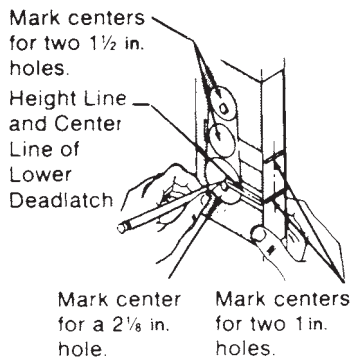

Figure 13.57 Marking holes.
1. Mark the height line (the centerline of the deadlatch) on the door (Fig. 13.57). *Suggestion:* Mark the line 38 inches from the floor.
and two 1½-inch holes through the template (Fig. 13.57). Mark the centers for two 1-inch latch holes on the door edge.